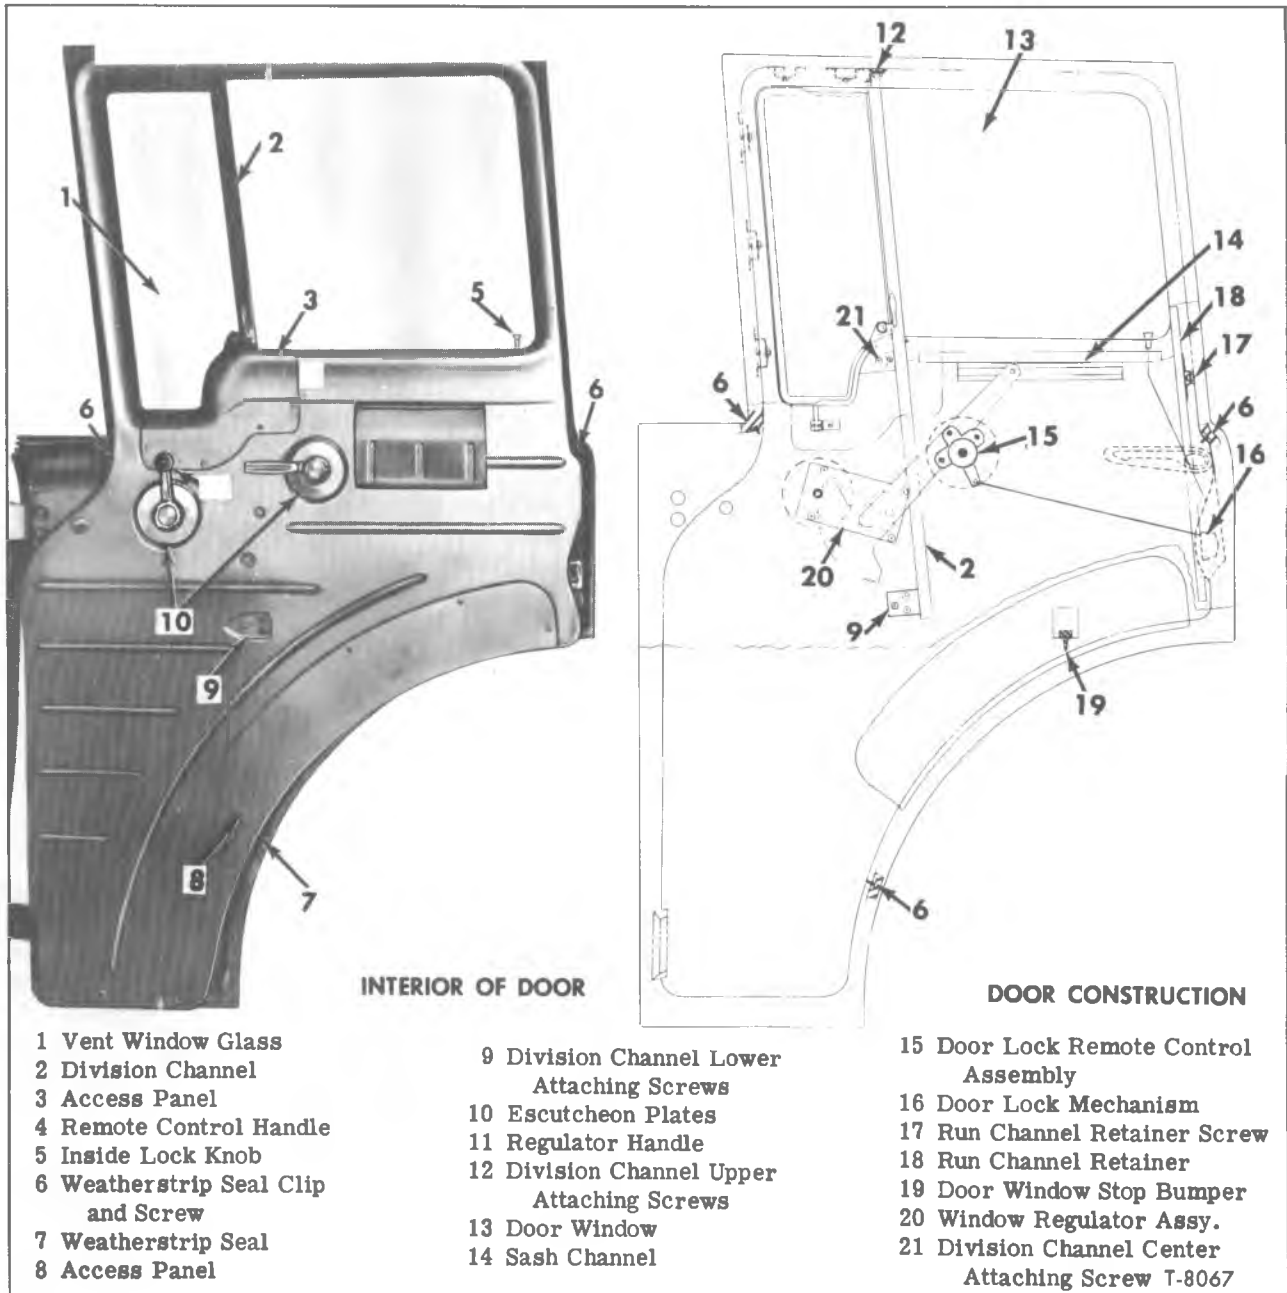

Figure 16—Door Construction
NOTE: Figure 16 illustrates the position of the lock and remote control mechanism components.
### INSTALLATION (Figs. 16 and 17)
3. While holding regulator assembly through opening in door, remove four screws (figs. 16 and 17) which attach regulator assembly to door inner panel.
4. Remove frame to door screw and frame to divisional channel screw (fig. 16).
5. Remove three division channel lower attaching screws (fig. 16).
6. Remove division channel screws at top of door (fig. 16).
7. Remove two screws at edge of door which attach run channel to door (figs. 16 and 17).
2. Remove applicable screws which attach either division channel or run channel to door framing (fig. 16) and lower channel(s) through access opening at bottom of door.